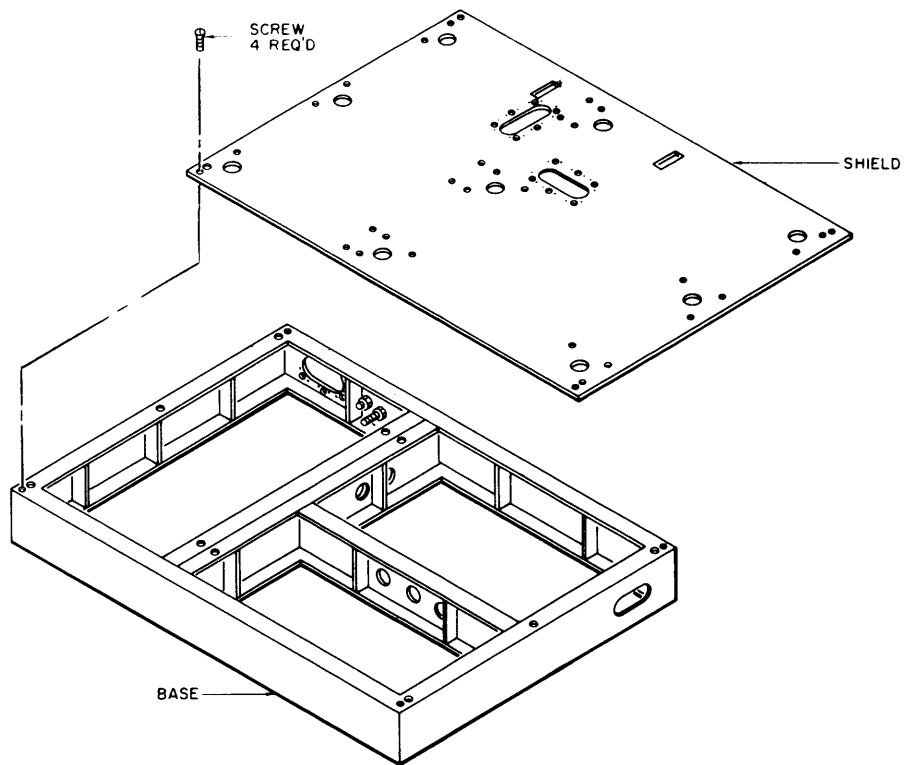

Figure 2-4. Base Assembly for the First and Second Frames, Installation Diagram.
- b. Remove shield from base assembly, figure 2-4, for the first and second frames. Shield will be replaced later.
- a. Properly position shield, figure 2-4, on base assembly for first and second frames.